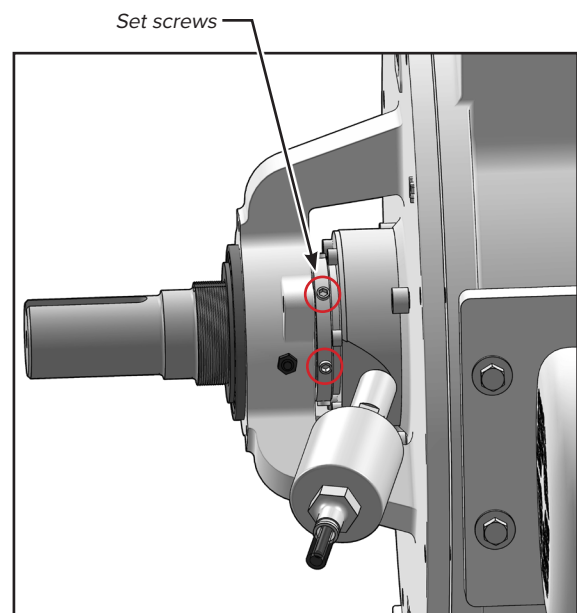

FIGURE 17
5. Loosen all set screws (figure 17).
18. Once clearances are verified, alternatively tighten the setscrews on the dynamic seal (figure 17).